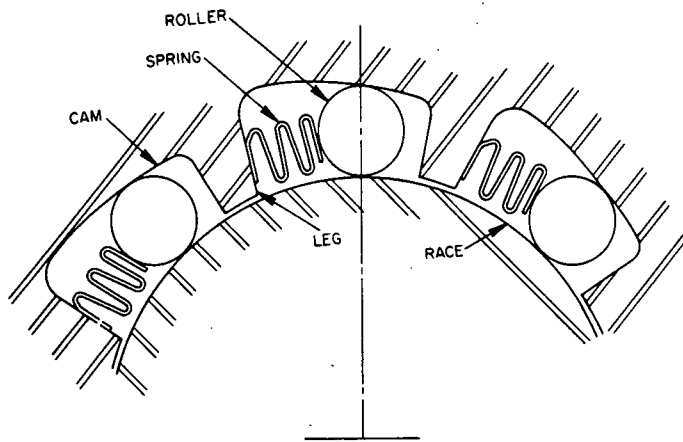

FIG. 4—LOOSE ROLLER TYPE CLUTCH DIAGRAM (LEG TYPE CAM)
3.3.1.1 **Leg Type**—A cam which has integral legs projecting into the space between the rollers to provide reaction for the springs and may provide radial location of the race relative to the cam. (See Fig. 4.)